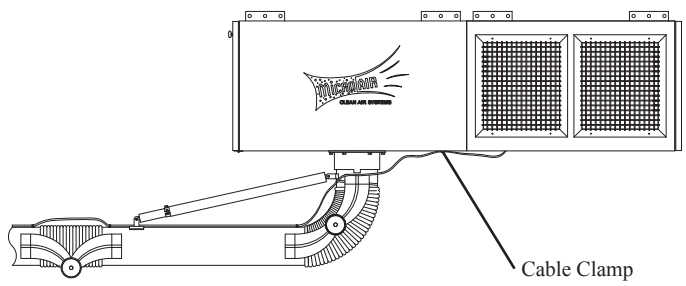

FIG 5
7. Metal cable clamps are supplied to allow the installer to clamp cables (Fig. 5).